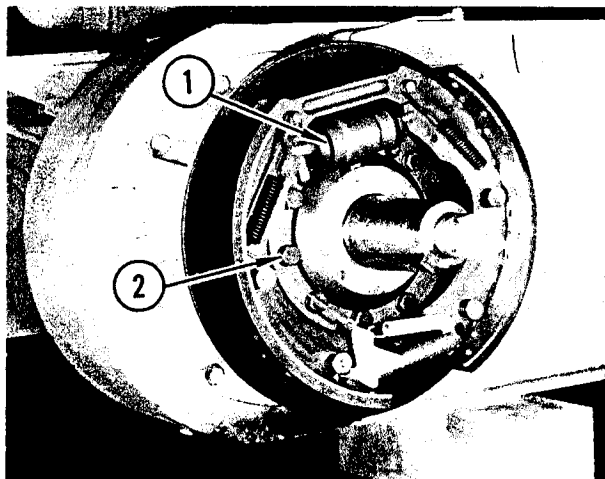

FIGURE 2. BACKING PLATE REMOVAL
Refer to Figure 2. Expand upper ends of brake shoes and remove wheel cylinder (1). Remove the ten cap screws and lockwashers (2) retaining brake assembly to eccentric housing and remove brake assembly. Illustration shows brake assembly for R.H. Note adjusting cable is on rear brake shoe.